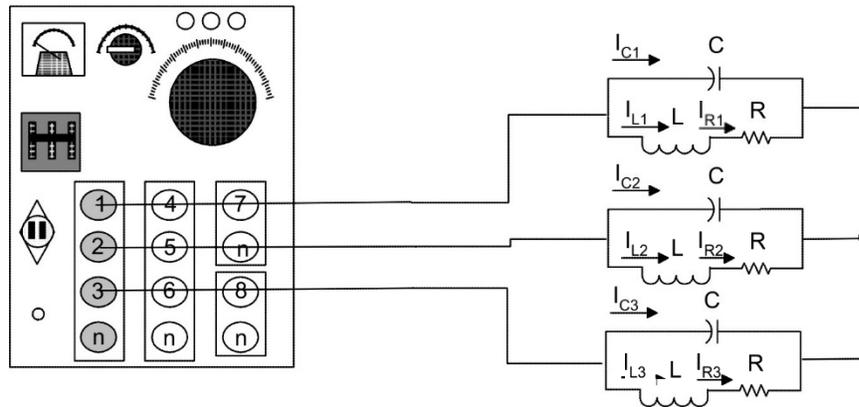

FIGURE 3.8
- Step 3: Substitute the AC ammeters by the marked leads (one at a time), as shown in Figure 3.8 to measure currents I_1 , I_2 , and I_3 .
- Step 6: Substitute the AC ammeter to measure I_{C1} , I_{C2} and I_{C3} as shown in Figure 3.8. Repeat steps 4 and 5.
- Step 7: Substitute the AC ammeter to measure I_{R1} , I_{R2} and I_{R3} as shown in Figure 3.8. Repeat steps 4 and 5. Turn off the power supply
- Step 8: Substitute the AC ammeter as shown in Figure 3.8 to measure I_{L1} , I_{L2} and I_{L3}